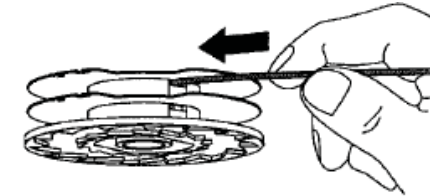

Fig. 16
6. Insert one line into each of the two slots on the spool (Fig. 16).